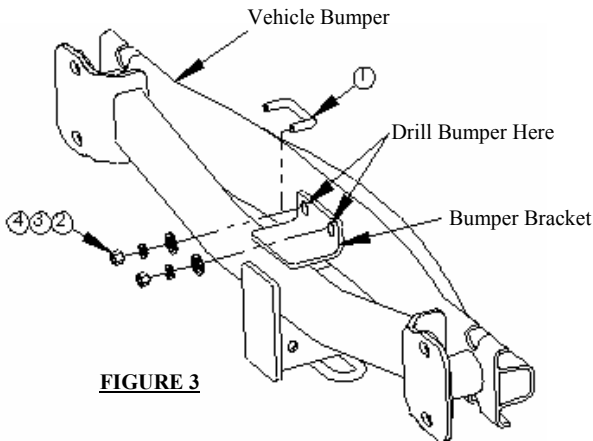

FIGURE 3
①	Qty. (1)	U-bolt, 3/8"	③	Qty. (2)	Lockwasher, 3/8"
②	Qty. (2)	Conical Washer, 3/8"	④	Qty. (2)	Hex nut 3/8"
- Clamp the hitch and the bumper to each other off of the vehicle. Align the mounting holes on the hitch and the bumper, as shown in **Figure 3**. Make sure that the threaded hole in the bumper is on the passenger side. Drill two holes in the bumper, using the holes in the bumper bracket as a template.
- Feed the u-bolt through the bumper bracket and the bumper. Fasten in place as shown in **Figure 3**, finger tight.